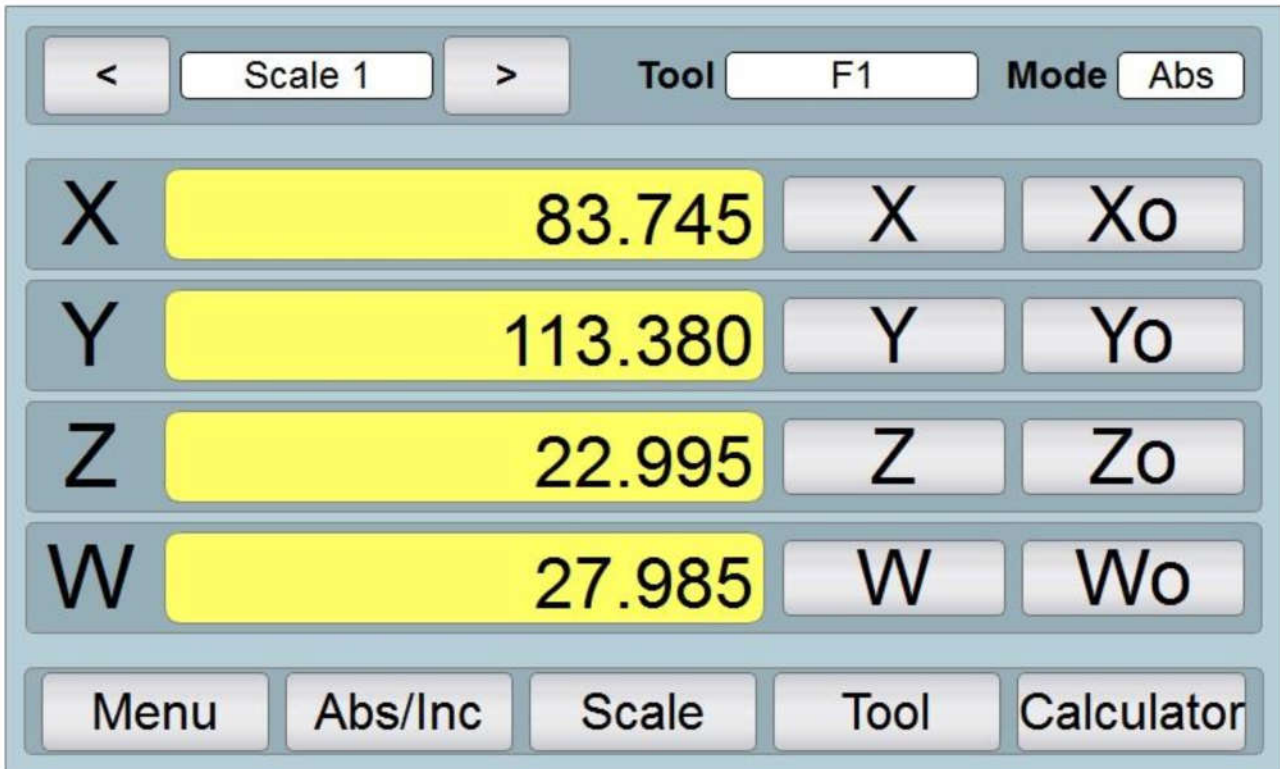

Fig. 4: Initial screen
- ⑩ The first screen is displayed after starting the whole system and program TSMAX.
- ⑩ Description fig. 4: Initial screen